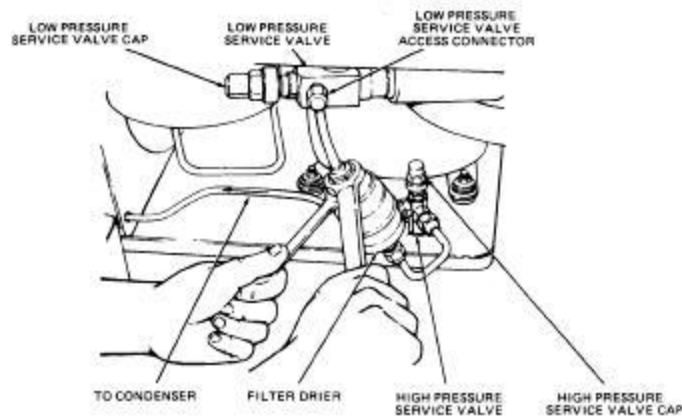

Figure 11-13. Disconnect and Separate High Pressure Refrigeration Lines
15. Disconnect and separate the refrigeration fittings leading to the evaporator, Figures 11-13 and 11-14.